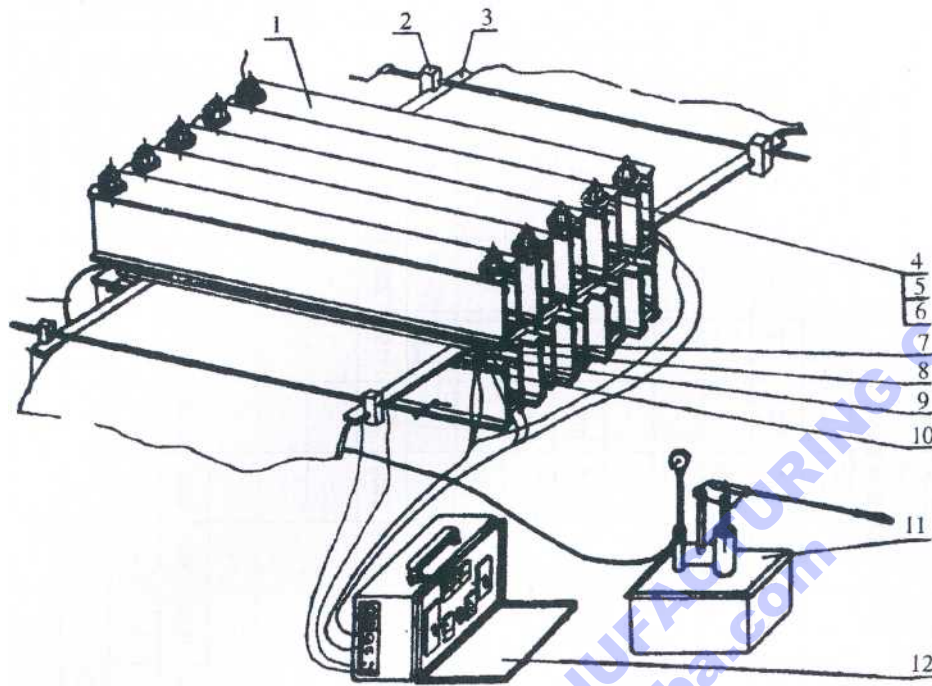

Fig. 3
Frame is the component used for supporting and clamping during the vulcanization work. It is required to have sufficient strength and rigidity, and it should also have lighter weight for convenient moving. Therefore, the upper and lower frames are all made into combination of single units, and the single units are all the same and interchangeable. The frame is formed by extruding of the aluminum alloy, and it can also be formed through I-steel welding. The structure is shown in figure 3.
screw with opposite spiral at the two ends, and two clamping nuts. During the work, the handle at the end of the lead screw can be rotated, to fasten or loosen the clamp plate. See figure 3.
(7) As shown in figure 3, the quick joint of pressure pump is connected with the water inlet hole of the hydraulic pressure plate. The primary supply lead is plugged into the control box socket properly. One end of the secondary supply lead is plugged into the control box socket and another end is plugged into the electrothermal plates. The thermal resistance lead is plugged into the control box socket, and the sensor at another end is plugged into the thermometer hole of the electrothermal plate. Till now the vulcanizer is completely assembled. And then the operation of pressurization, heating, timing and so on need to be prepared.